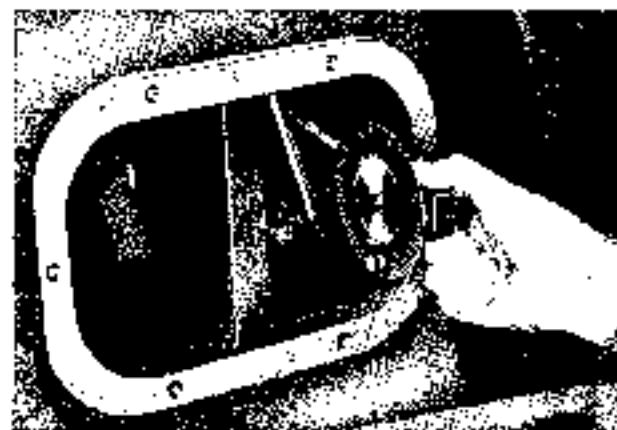

Fig. 42.
7. Screw on the capillary tube 4452.90 to the pump body (see Fig. 42) instead of the fuel feed pipe.
8. Using the starting crank, crank the engine until fuel is delivered to the capillary tube and check the fuel level in the tube during the cranking procedure; if the level moves, stop cranking and, using the protractor 4453.91 installed on the machined face of the crankshaft, check the angle of the injection commencement which should be set to 30° before top dead centre (see Fig. 42).